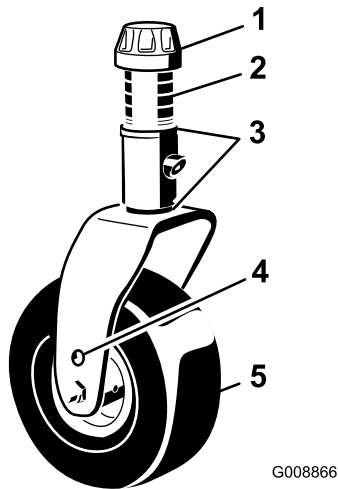
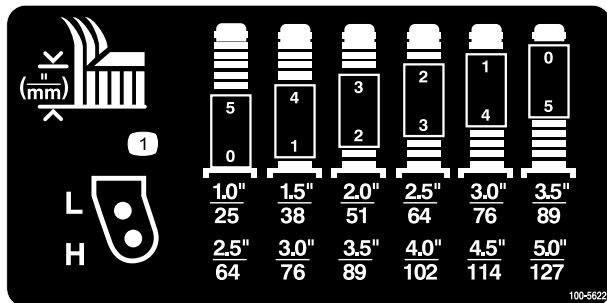
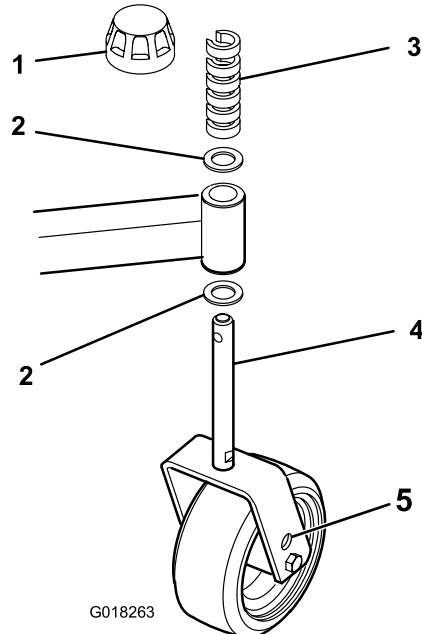

Figure 7
Figure 8
Figure 9
2. Position the castor wheel axles in the same holes in all castor forks. Refer to Figure 7, Figure 8 and Figure 9 to determine the correct holes for the setting.
1. Remove the tensioning cap from the spindle shaft (Figure 7) and slide the spindle out of the castor arm.
Refer to Figure 8 to determine the combinations of spacers for the setting.
1. Remove the tensioning cap from the spindle shaft (Figure 9).